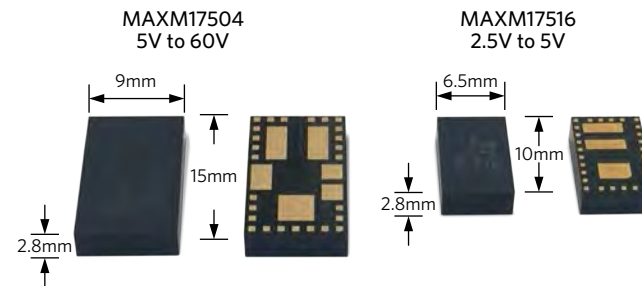

Figure 5. Just two examples of Maxim's Himalaya modules, small in both size and height
2.8mm is another key attribute for the next generation of power modules. It enables their use in mezzanine card applications where height clearance is important, and also makes it easier to integrate heat sinks—particularly important for high-power applications that need to disperse a lot of heat (Figure 5).